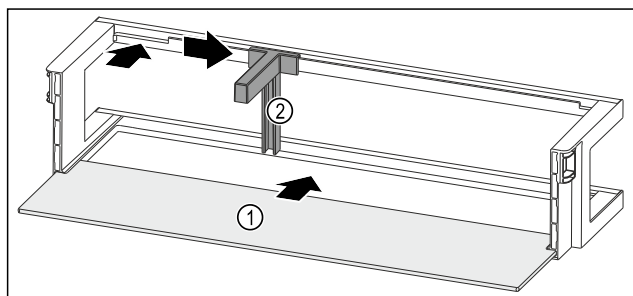

Fig. 99 Door rack with shelf
- Push the shelf Fig. 99 (1) into the side recesses.
- Insert the bottle holder Fig. 99 (2) in the recess.
- Push the bottle holder Fig. 99 (2) to the desired position to the side.